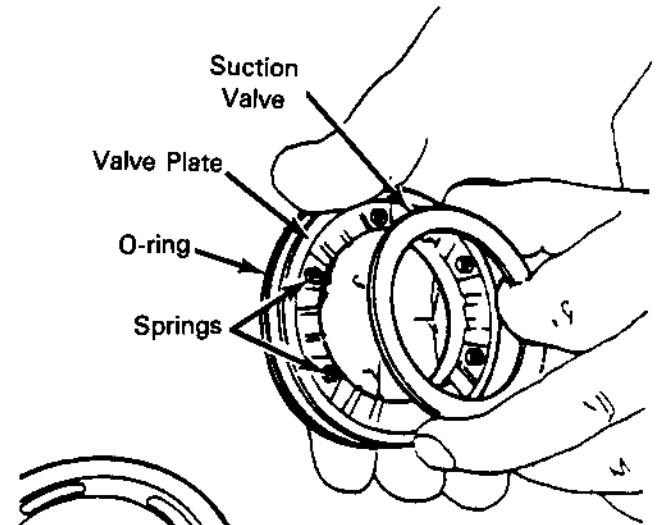

Figure 22 – Removing Suction Valve Components
3. Cylinders 2 and 3 have a flexing ring valve plate not equipped with springs. Cylinders 1 and 4 have a spring pocket valve plate with springs. Do not mix valves between these cylinders. Lift liner away from the valve assembly and remove the valve (16), spring (15) and o-ring (12) as shown in Figure 22. Keep the valve plate with the liner until time of assembly.